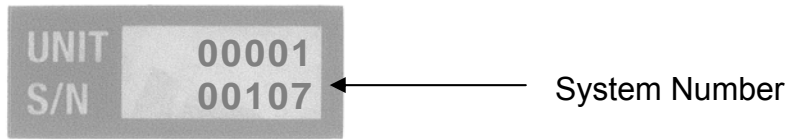
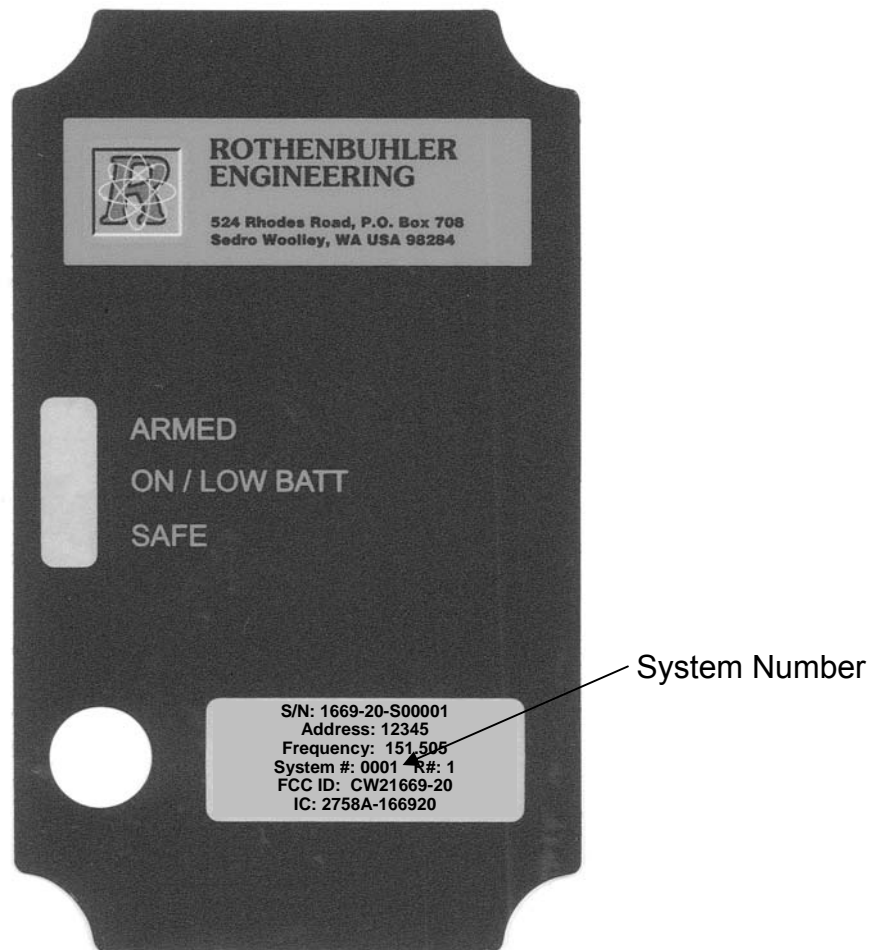

Figure 3-1 Mini Controller Unit Identification Label
Figure 3-2 Remote Unit Front Identification Label
3.6.1. Each Mini Controller Unit and Remote Unit is marked with an identification label. Figure 3-1 shows how the Mini Controller Unit identification label should be interpreted. Figure 3-2 shows the Remote Unit identification label. The Mini Controller Unit will only communicate with Remote Units from the same system.